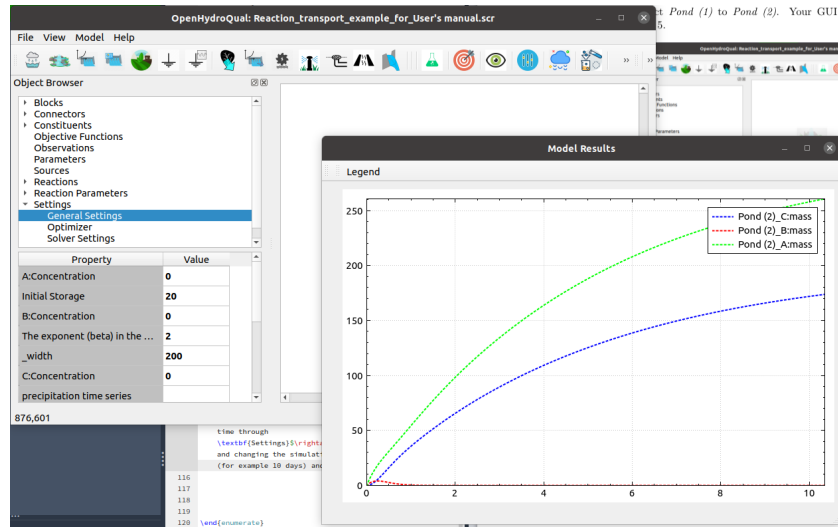

Figure 6: The results for the two-pond scenario over a 10 days period
- Run the model:** Run the simulation and check the results. You can look at the variation of storage in *Pond (1)* and *Pond (2)*, and the concentrations and masses of constituents **A**, **B**, and **C** in ponds (1) and (2) and the flow rate from *Pond (1)* to *Pond (2)* and also mass transfer rates of the constituents from *Pond (1)* to *Pond (2)*.
4. **Increase the duration of simulation and rerun the model:** If you want to see the simulation results over a longer period, change the simulation end time through **Settings**→**General Settings** and changing the simulation end time to a larger value (for example 10 days) and check the results again (figure 6).